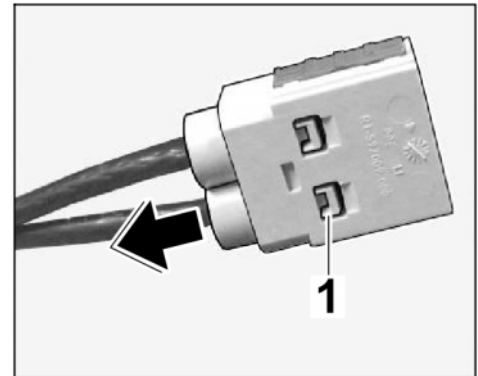

Figure 27
- 5.2.2 Lift up the locking mechanism ⇒ *Figure 27-1-* and carefully pull the antenna line (thinner line) out of chamber 2 ⇒ *Figure 27-arrow-*.